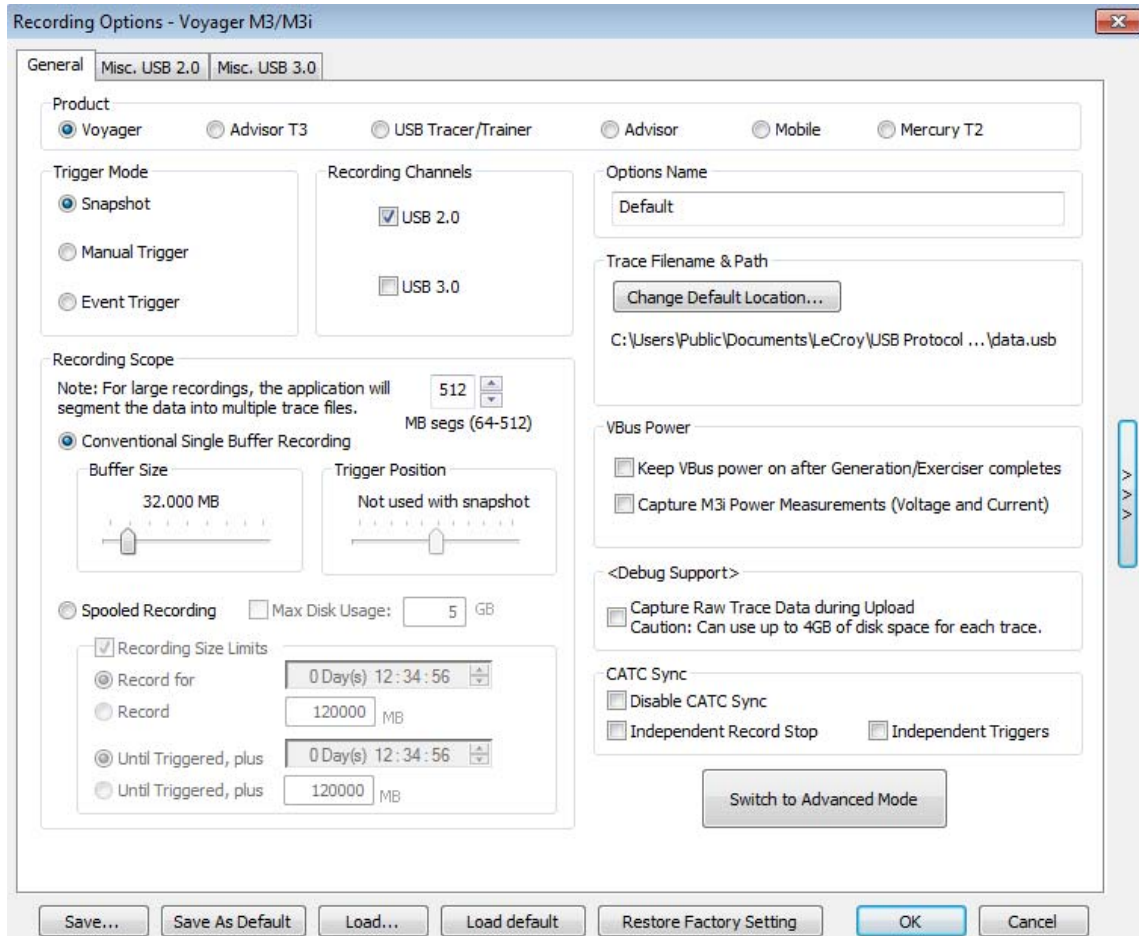

Figure 3.9: Recording Options - Voyager Dialog
3. Select the **General** tab to display a dialog box showing factory default settings, such as Snapshot and 4 MB buffer size (see Figure 3.9 on page 84). For the first recording, you can leave these settings unchanged. Under Recording Channels, select **2.0** to record USB 2.0 traffic.